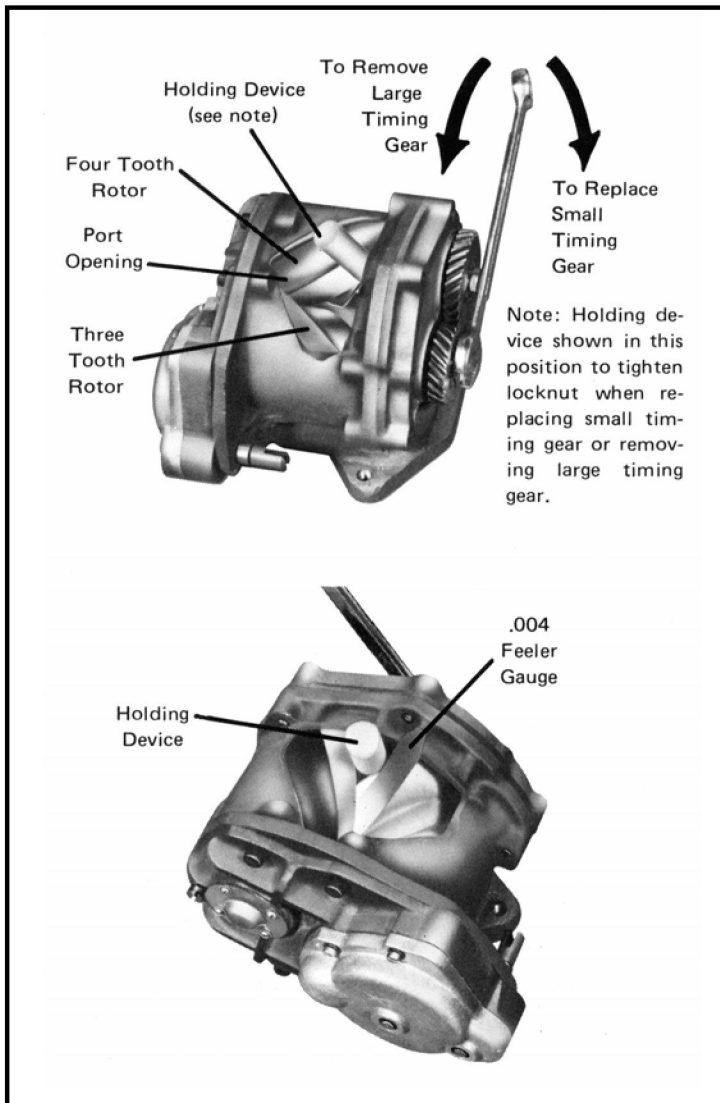

Figure 4-1 Typical Method for Blocking Rotors when replacing small Timing Gear or removing large Timing Gear.
7. Rotate the measuring unit and remove screws (item 22). This will enable removing the rear gear cover (item 21).
8. Remove screws (item 9) and separate rear end cover (item 20) from body (item 1).
C. Removing Timing Gears and Rotors (Refer to Figures 4-1 and 4-2)